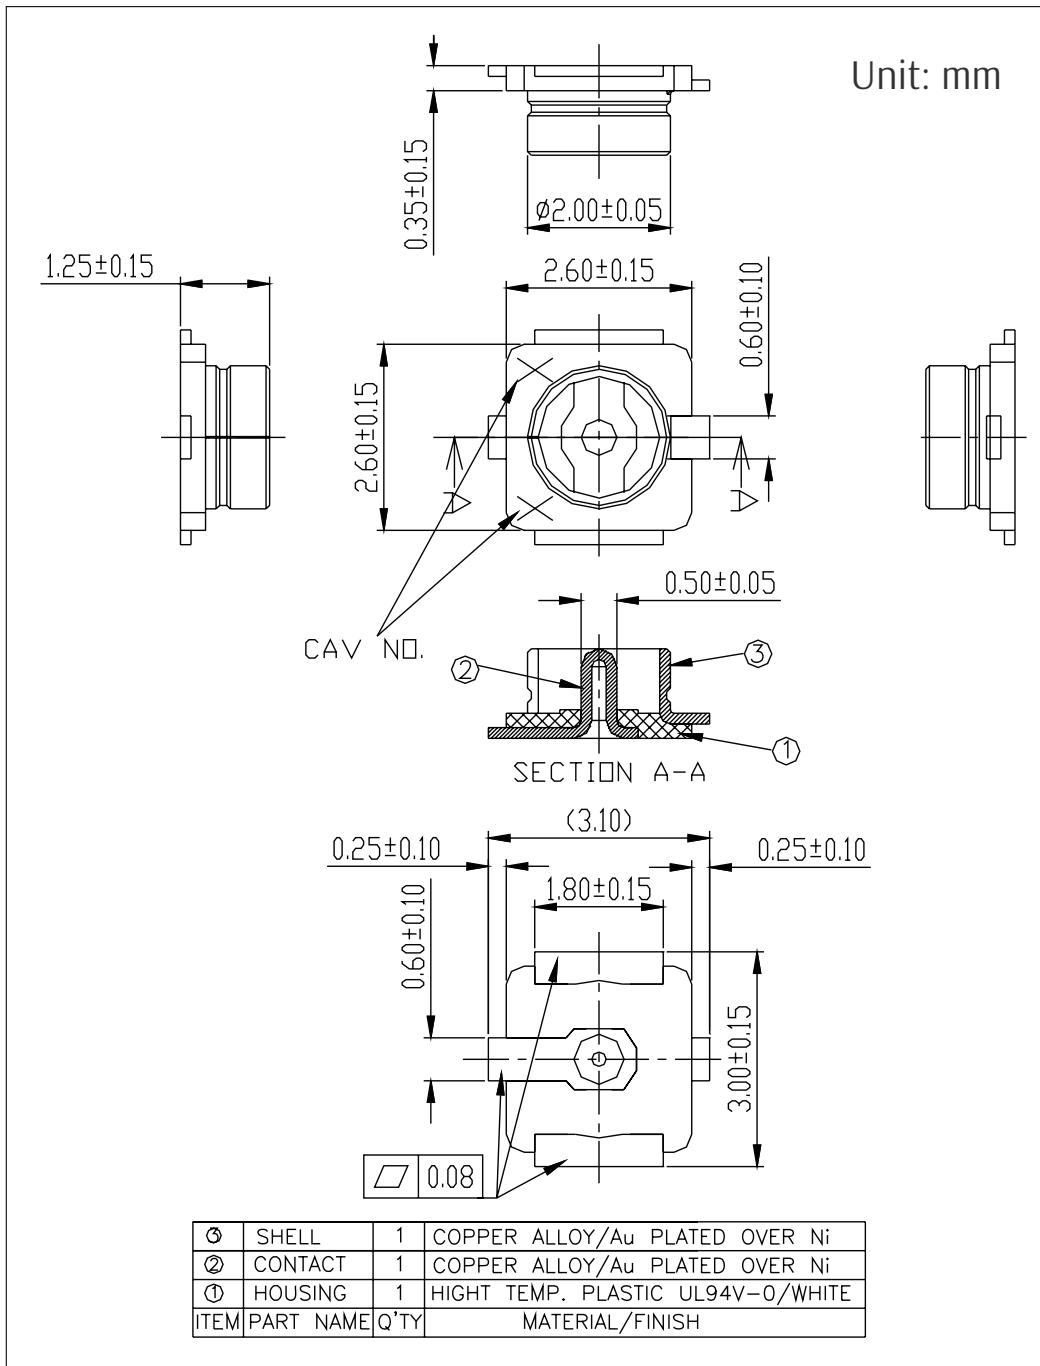

Figure 10-3. Dimensions of External Antenna Connector
ESP32-S3-WROOM-1U uses the first generation external antenna connector as shown in Figure 10-3 *Dimensions of External Antenna Connector*. This connector is compatible with the following connectors:
- The connector matches the specifications shown in Figure 10-3 *Dimensions of External Antenna Connector*